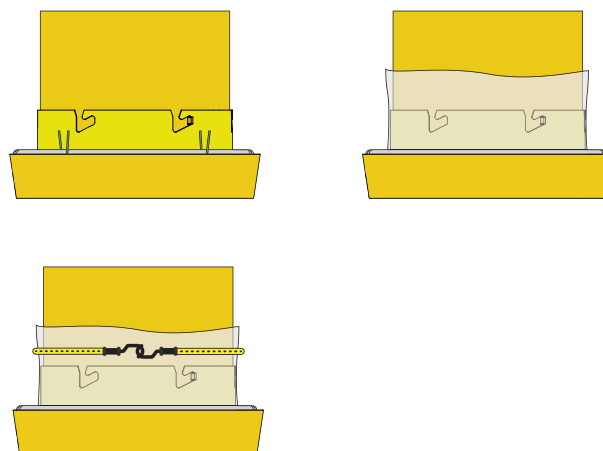

FIG. 8
Cut off and discard the twist ties on the cassette. Pull the center of the Cassette up and over the bead of the Cyclonic Pre-Separator (A). Secure to the hopper using the Bungee Cord (F) [FIG. 8].